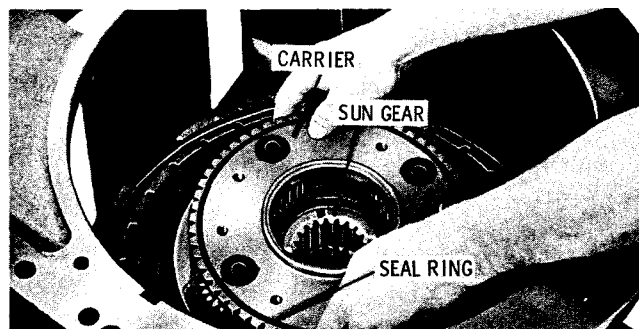

Fig. 7-6. Installing intermediate-range planetary carrier assembly
(6) Install the intermediate-range planetary carrier assembly onto the sun gear (fig. 7-6). Aline each of four pinion gears with the sun gear. Install the sealring into the carrier.